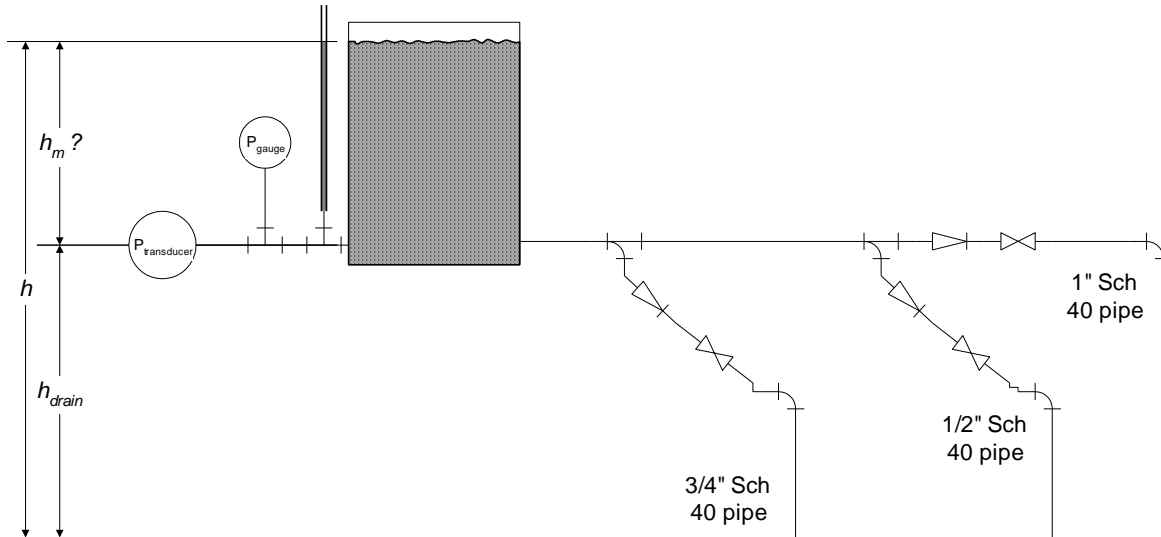

Figure 2: Tank Drainage Apparatus
- 4.2. Use the metal rule and clear plastic tubing to read the height of water and record pressure transducer output reading from DaqView visual display screen into the laboratory notebook. The zero of the water height should correspond to the value of h_m shown in Figure 2. Remember that when you plot your data and compare it with theory you will need the total liquid height in the tank and the pipe $h = h_m + h_{drain}$. As you are calibrating your pressure transducer also record the low pressure diaphragm gauge readings. Comment on the difference between the sight gauge (metal rule and clear plastic tubing) and low pressure diaphragm gauge.
- i) Make a plot of $h_{initial}^{0.5} - h^{0.5}$ vs. time and fit a linear trendline through the data. Remember that the liquid height is defined by the equation: $h = h_m + h_{drain}$ (refer to Figure 2). When you fit the trendline to the data remember to specify an intercept of zero. The trendline will give you the slope from your experimental data